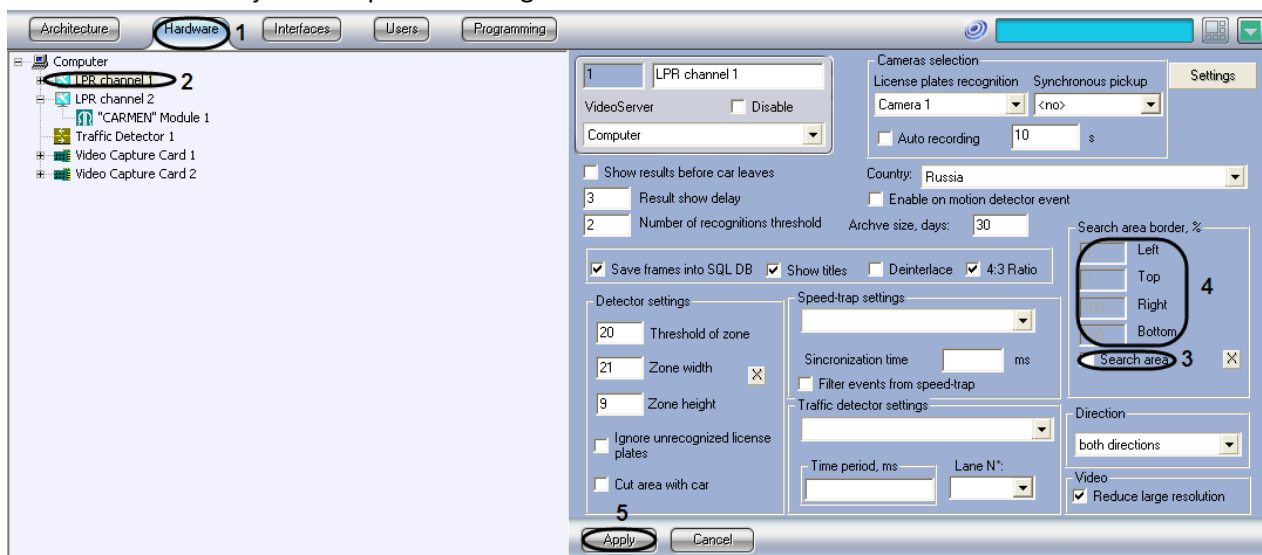

Fig. 7.2-21 Setting the exact borders of the LP number search area boarder
2. In the object tree of the Hardware tab, select the LPR channel, corresponding to the activated Auto-Urgan3.3.5.18, CARMEN-parking, CARMEN-Auto or ACCR program module (see. «Program module activation, used for Plates identification», Fig. 7.2-21, 2). The settings panel of the selected object will open on the right side of the window.